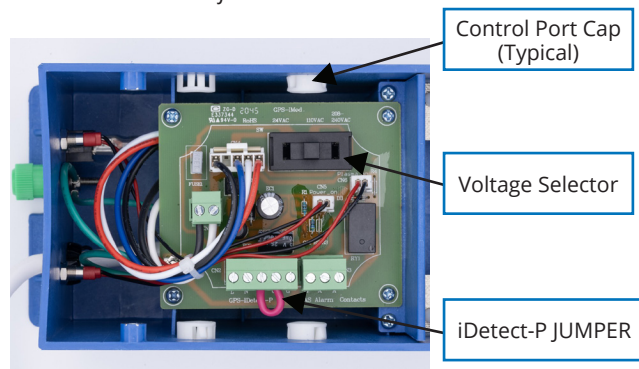

Figure 15
WARNING – DO NOT CONNECT POWER UNTIL VOLTAGE SELECTOR SWITCH INSIDE HOUSING IS CONFIRMED TO BE IN THE CORRECT POSITION MATCHING THE PRIMARY POWER BEING APPLIED (See FIGURE 15).
NOTE: The power supply has an internal voltage selector switch set to 110VAC from the factory, as shown in FIGURE 15. If 24VAC or 208-240VAC is required, move the selector switch to the proper position as shown on the circuit board or inside cover of the power supply lid. DO NOT APPLY POWER until the switch position matches the power supplied. Based on voltage input or local codes, the 3-prong plug may be cut off and the three wires are as follow:
Step 1 - Remove the red jumper wire between C and NO on the GPS-iDetect-P terminal block (see FIGURE 15 for jumper wire).